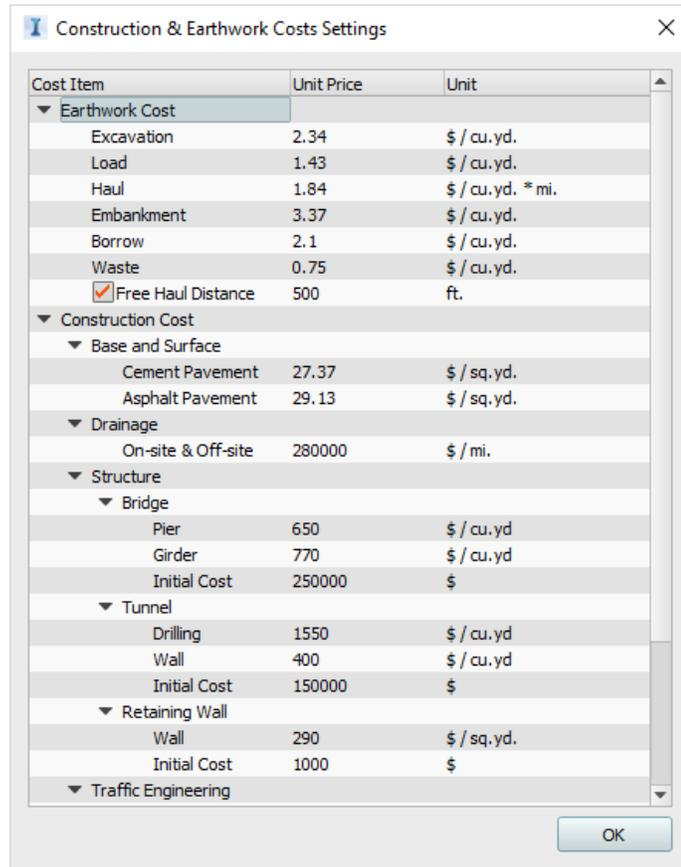

Figure 15 - Construction & Earthwork Costs Settings
- Construction & Earthwork Cost – The construction and earthwork cost section is where the cost values for different aspects of the design can be specified. These costs include things such as Excavation, Pavement, Drainage, Bridges/Tunnels, and more. See Figure 15 for an example of the costs settings.